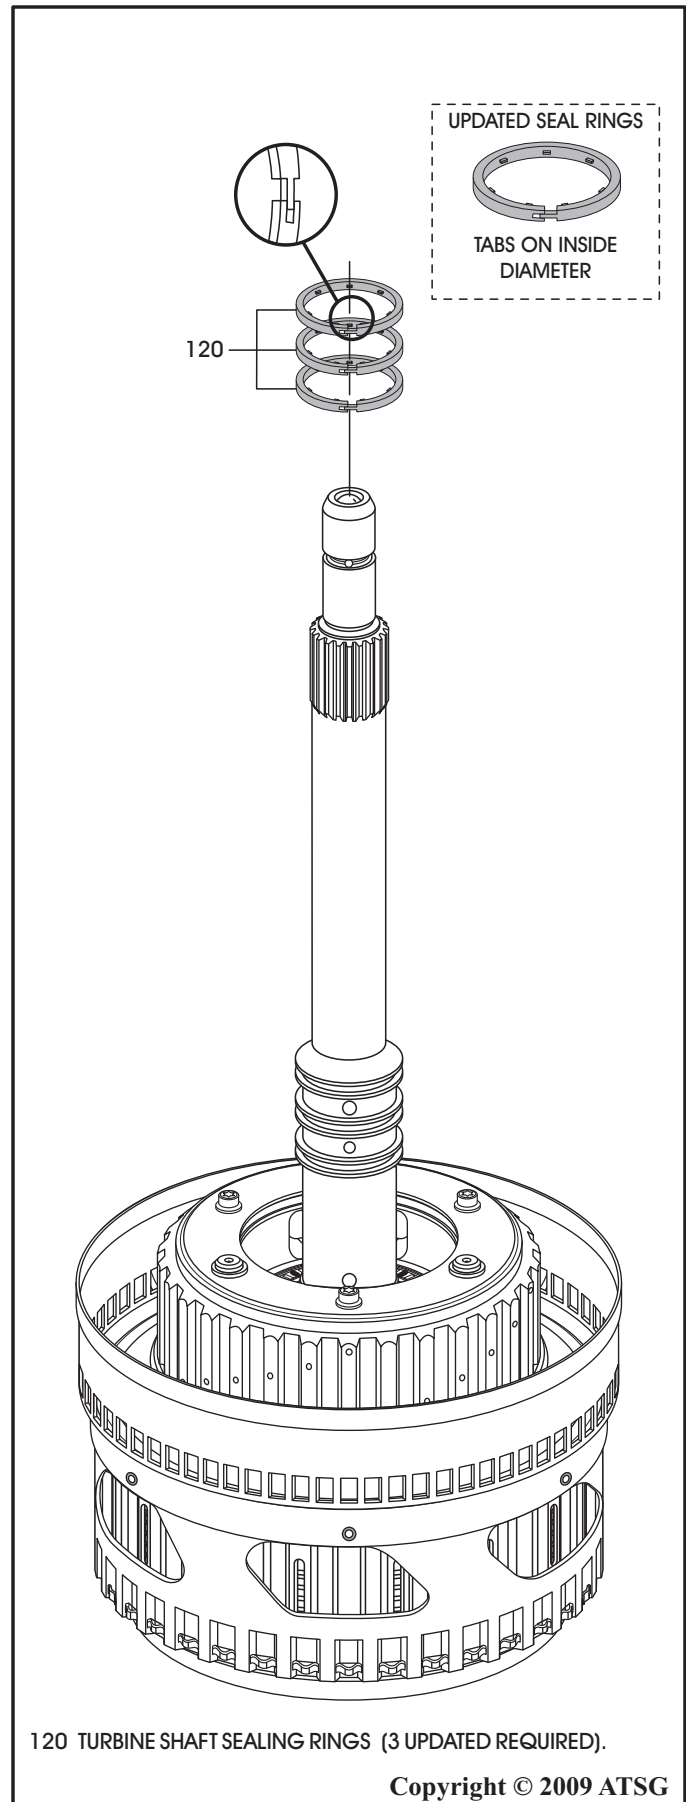

Figure 120
38. Install three new "updated" turbine shaft seal rings into the turbine shaft grooves, as shown in Figure 120.